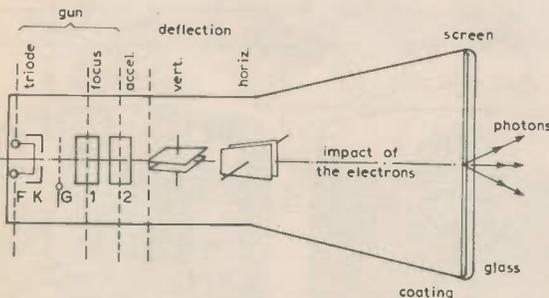

Fig. 1. Basic oscilloscope (electrostatic) cathode-ray tube (courtesy Enertec Instrumentation Ltd.)
THE cathode-ray tube is the main component of an oscilloscope. A cathode-ray tube consists basically of an electrode assembly mounted in an evacuated glass vessel (Fig. 1). The electrodes perform the following functions:
1. A triode assembly generates the electron beam, originally called the "cathode ray". It consists of a cathode K heated by a filament F, a control grid G and the first beam-acceleration electrode (2).
2. An electrode (1) focuses the beam.
4. The vertical deflection plates change the direction of the beam in proportion to the potential difference between them. When this is zero, i.e. the two plates are at the same potential, the beam passes through undeflected. The vertical deflection plates are so called because they can deflect the beam in the vertical direction, so that it hits the screen at a higher or a lower point; they are actually mounted horizontally above and below the beam, as shown in Fig. 1. Similarly the horizontal deflection plates permit the beam to be deflected to left or to right.